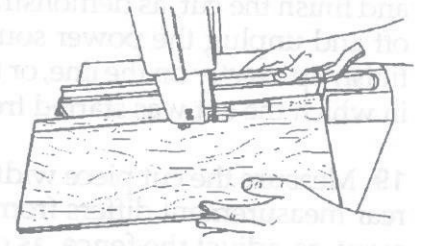

Fig. 14
11. Mount the fence on the bandsaw table, and slide the fence so it touches the board (but does not move it), as seen in Fig. 14.